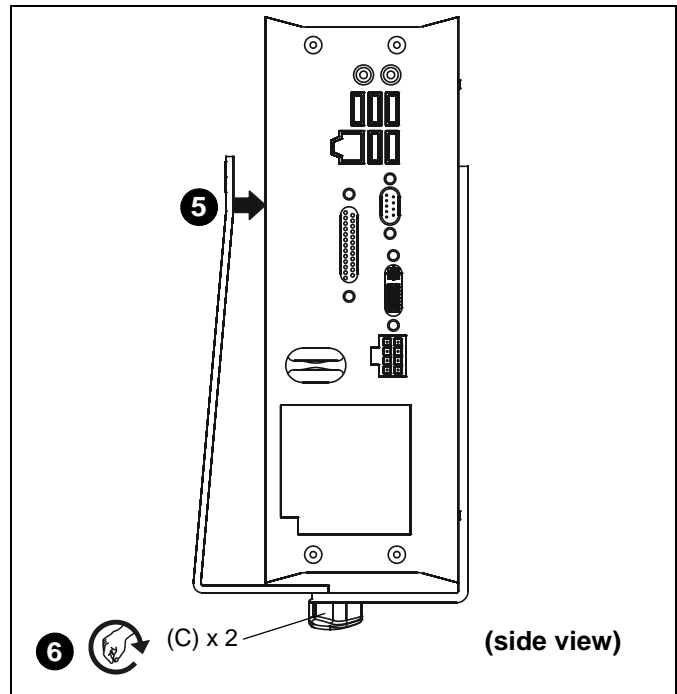

Figure 12
4. Loosen knobs (C) below CPU Wall Mount in order to allow adjustment.
5. Collapse the mount until it fits tightly around CPU. (See Figure 12)
6. Tighten knobs (C) below CPU Wall Mount to secure plate in position. (See Figure 12)